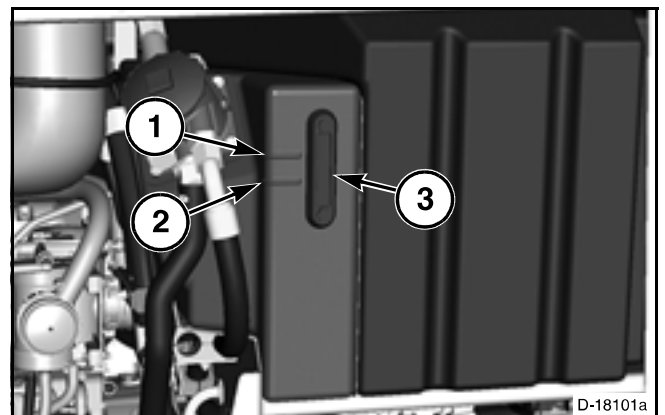

FIG. 29
FIG. 29: Check the level of the hydraulic fluid every day. The level of the hydraulic fluid must be between the full mark (1) and the add mark (2) in the sight glass (3) on the hydraulic reservoir.